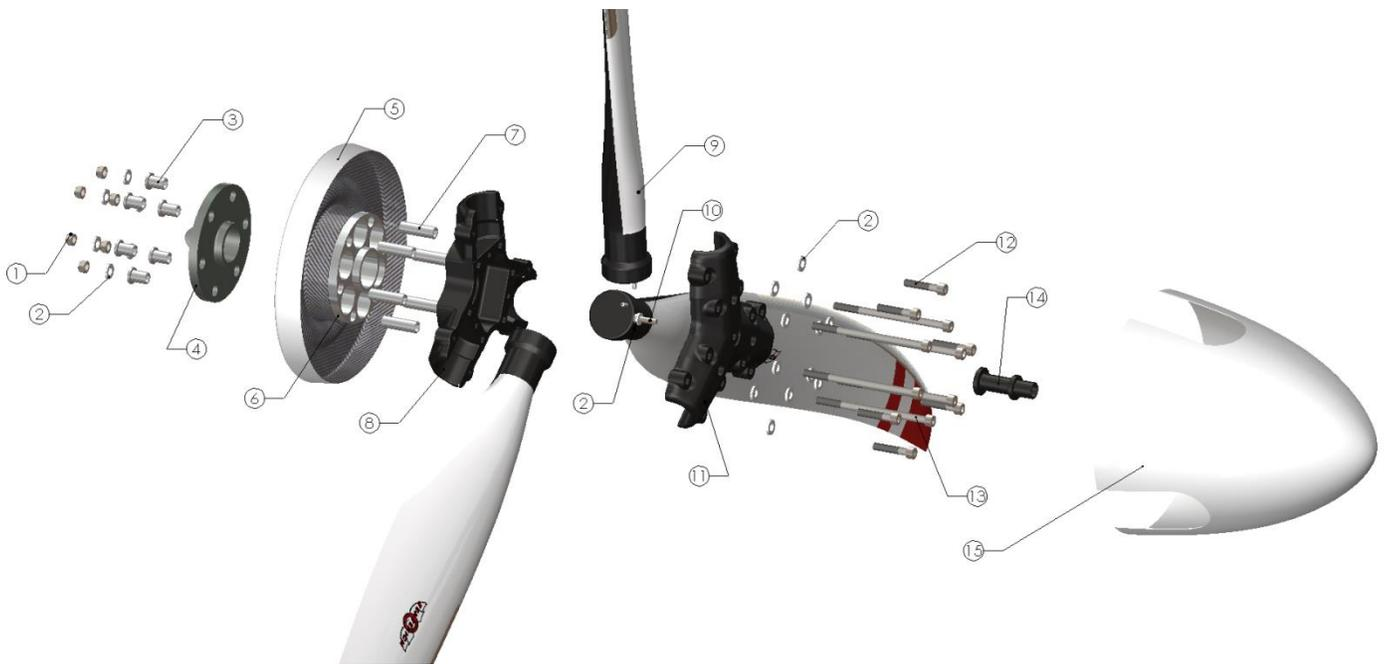

FIGURE 1. FLIGHT DESIGN PROPELLER ASSEMBLY
1. Refer to **Figure 1** for views of the two piece hub, blade, and pitch setting gage. Place the hub mount half flat on a suitable work surface with the engine side down.
11. *Be certain that the aircraft magneto switch is "OFF" and that all magnetos are grounded any time the propeller is handled.* Chock the aircraft wheels to prevent movement. Clean dirt and oil residue from the engine flange. Refer to **Figure 1** for a view of the two piece hub, blades, and pitch setting gage.
12. Slide the (6) Sensenich Rotax Bushings (A-1263) into the rear side of the flange. Place the Flight Design spacer with rear spinner bulkhead on the engine flange. Ensure all bushings slide into their respective holes. After spacer has been fitted, slide the 6 extended spacer bushings (A-1519) into the front side of the spacer while on engine flange.